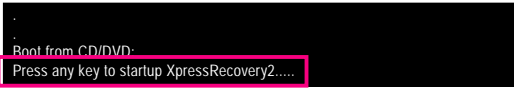

Figure 8
1. Boot from the motherboard driver disk to access Xpress Recovery2 for the first time. When you see the following message: `Press any key to startup Xpress Recovery2` (Figure 8), press any key to enter Xpress Recovery2.